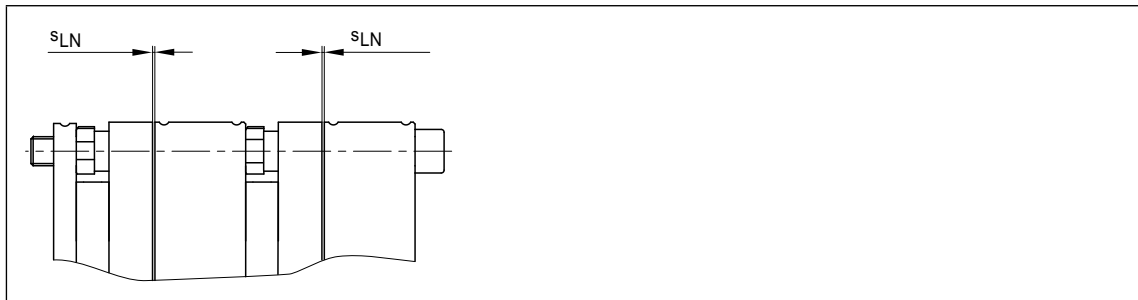

Fig. 11 Check the air gap
12. Check the air gap using a feeler gauge and correct it if necessary ($s_{LN} = 0.4 \pm 0.05 \text{ mm}$) according to Figures 11 and 12.